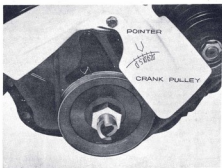

Fig. 1 Checking the Ignition Timing
2. Turn the crankshaft gradually until the top dead center mark (Fig. 1) on the pulley periphery coincides with the mark for 12 deg. before top dead center on the timing gear cover as the crankshaft approaches its position somewhat before that corresponding to the end of the compression stroke of the No. 1 piston. Stop the crankshaft in this position. The compression stroke of the No. 1 piston can be determined if the spark of the No. 1 cylinder is removed, the hole plugged with a finger, and the crankshaft turned. With the crankshaft in the previously mentioned position, the No. 1 piston is in its position of 10 deg. before top dead center of compression.